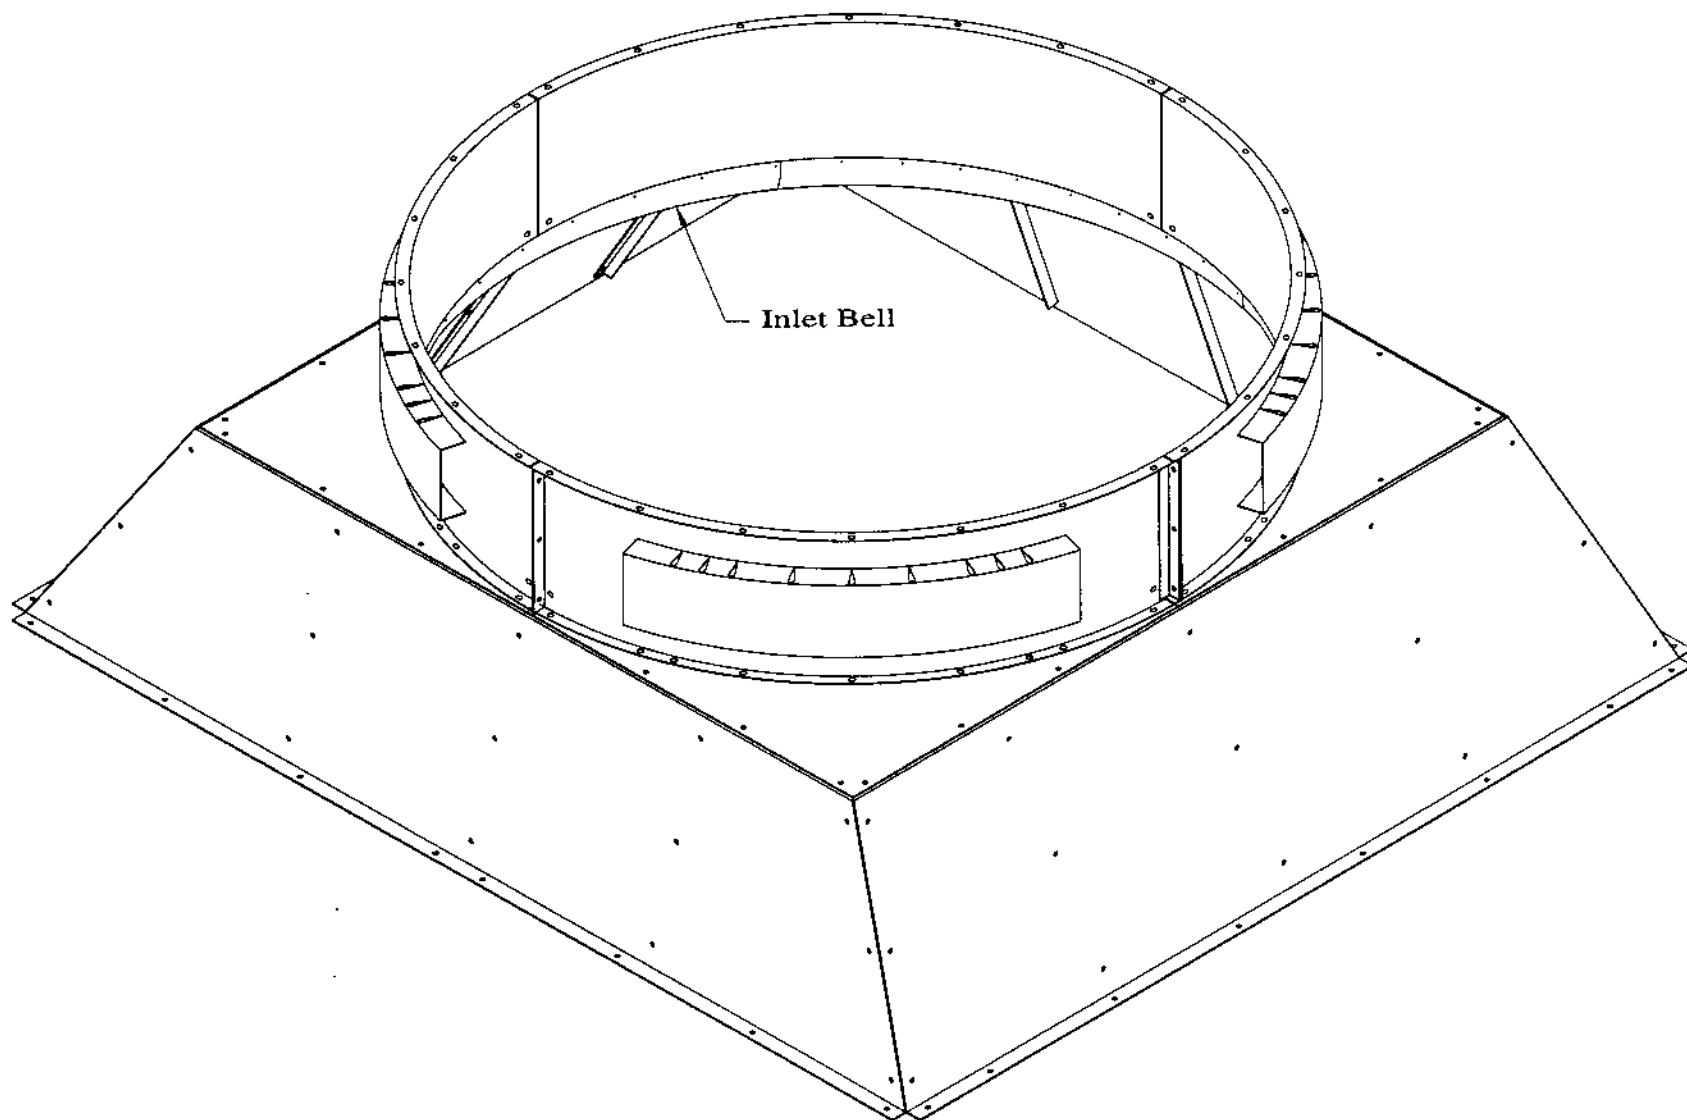

FIG. B3 - INLET BELL
4. Install inlet bell. See Fig. B3 and "INLET BELL INSTALLATION FOR INDUCED DRAFT UNITS".